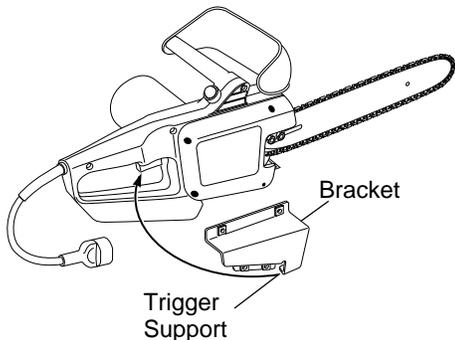

Figure 5 - Bracket with Trigger Support
1. Slip handle bracket over chain saw handle from the right side (see Figure 5).